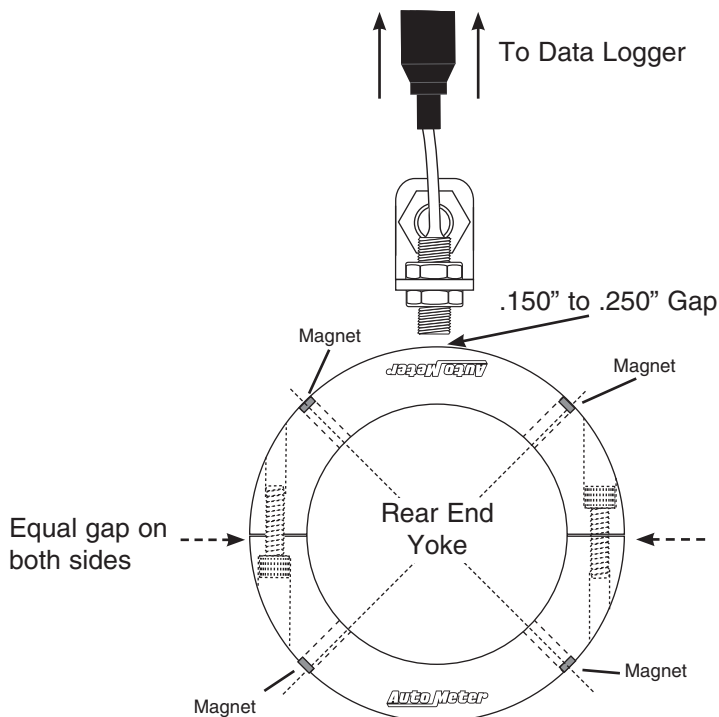

Figure 1. Drive Shaft RPM Sensor and Collar Installation
- 2) Install drive shaft collar on rear end yoke. Align magnets on collar halves 90 degrees apart, opposite each other (Figure 1).